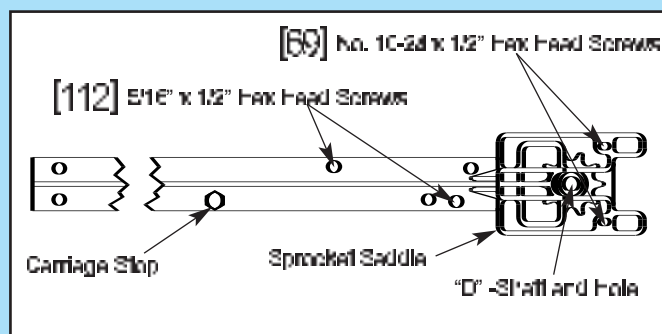

Fig. 1-3
4. Slide drive end of rail down over "D"-shaft on top of power head (Fig. 1-3).